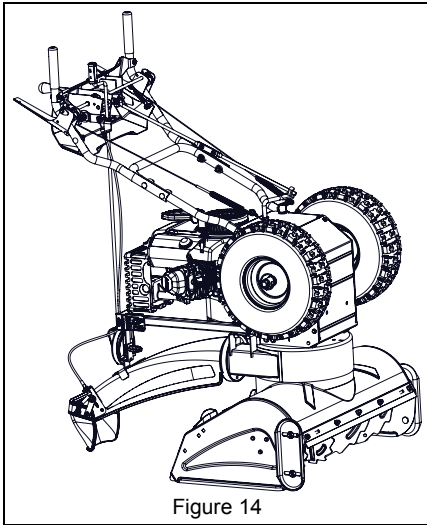

Figure 14
See Figure 14.
1. Place unit in service position (see Figure 14) and remove bottom cover.